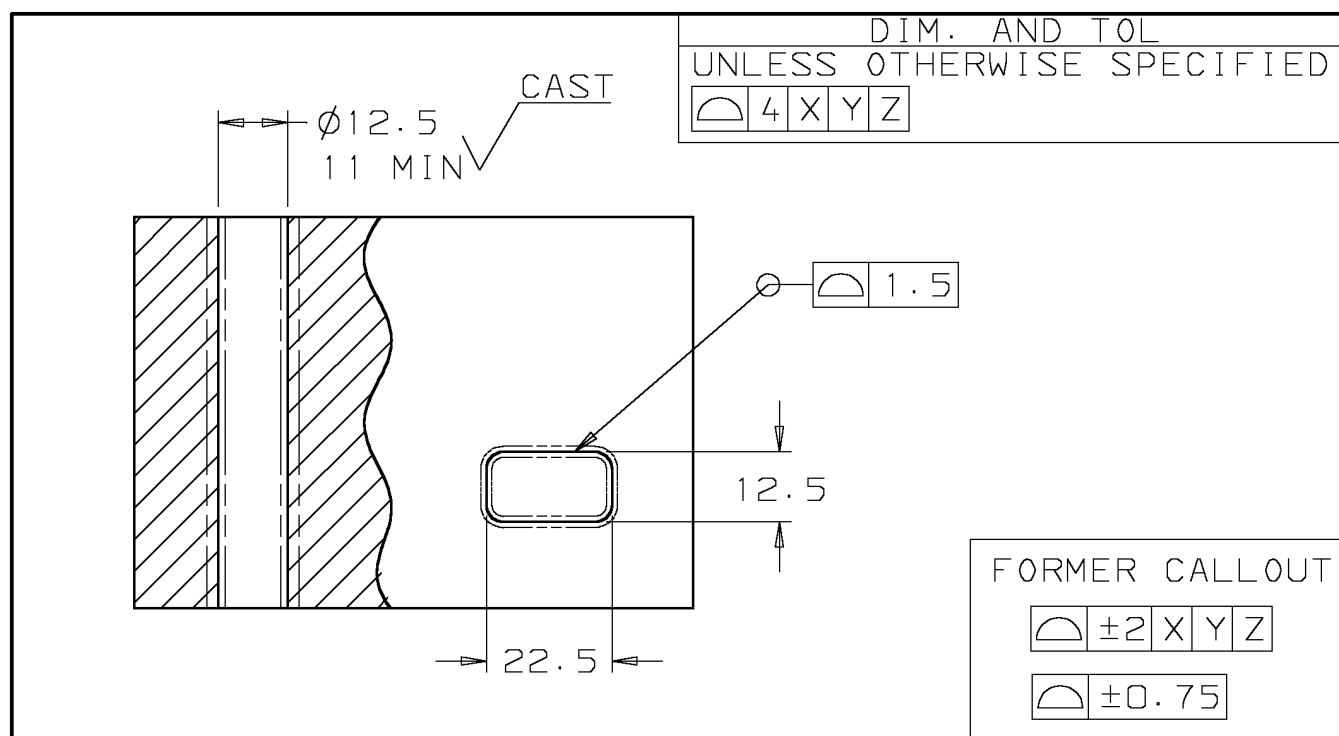

Figure 28 - Illustration - Cored Openings
**12.3 Cored Openings or Passages Tolerance** - The general profile tolerance shown in the **DIM AND TOL** block applies to casting surfaces unless otherwise specified. This includes a surface or surfaces forming an opening or internal passage unless restricted in some other manner as shown in Figure 28.